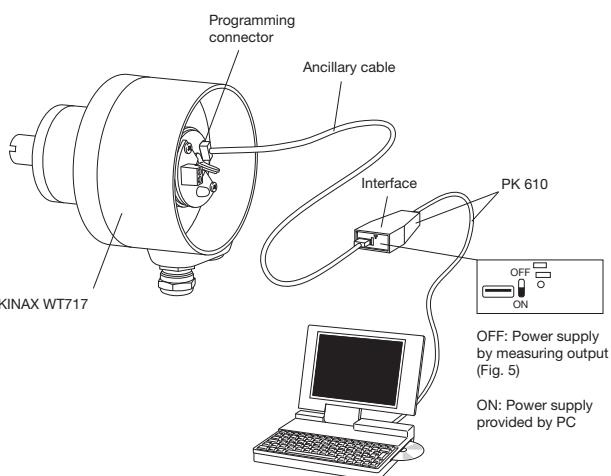
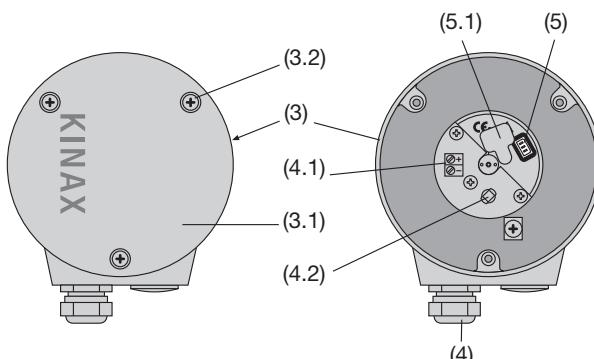

Fig. 3. Connection diagram programming
Fig. 4. Rear (3) with terminals (4.1) and cable glands (4).
1. Remove the cover (3.1 in Fig. 4). Remove the rubber cover (5.1) to gain access to the programming connector (5), (see section "8.1 Connecting transmitter"). Connect the KINAX WT 717 to the programming device according to Fig. 3. Start the 2W2 configuration software. If necessary, configure the device with the required measuring range data.
- Put the transmitter into operation and connect the programming device according to Fig. 3 (AUX switch on the PK 610 on the OFF position).